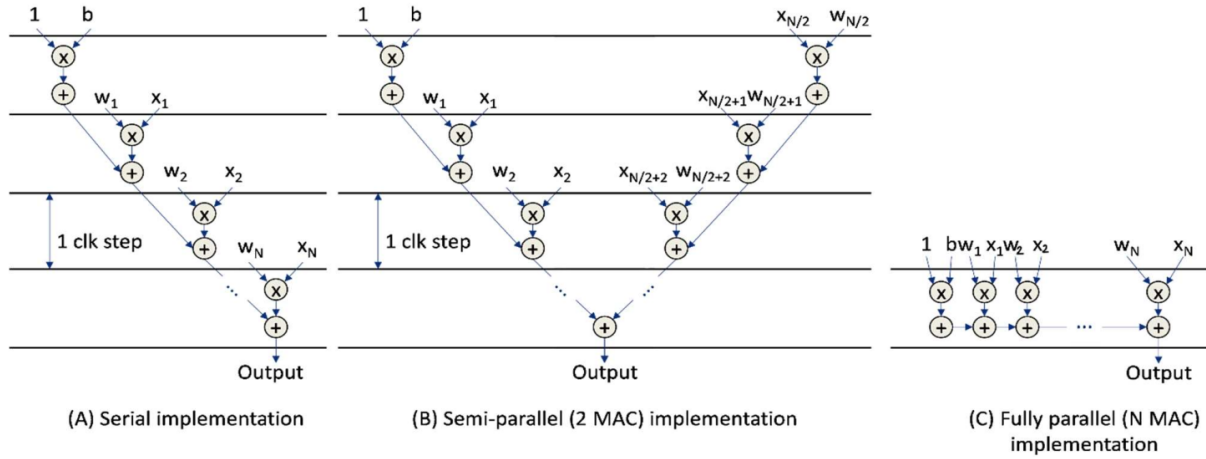

Figure 4: Operation schedules of the three alternative N-input neuron implementations.
The operation schedule of each of these solutions is illustrated in Figure 4. Figure 4(A) is for the fully serial implementation with 1 MAC unit. Figure 4(B) assumes a semi-parallel implementation with 2 MAC units, and Figure 4(C) is a fully-parallel implementation with N MAC units.